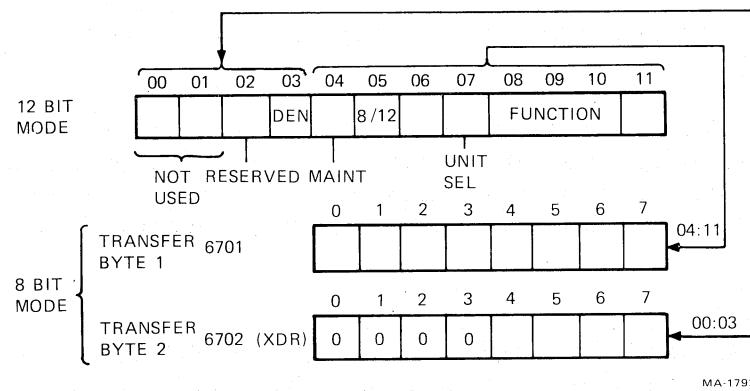

Figure 4-2 Command Word Format (RX28)
4.1.2.2 RX28 Load Command – (First byte 67x1, second byte – 67x2) – This command transfers the contents of the AC to the interface register and clears the AC. The RX02 begins to execute the function specified in AC 8, 9, and 10 on the drive specified by AC 7. A new function cannot be initiated unless the RX02 has completed the previous function. The command word is defined as shown in Figure 4-2 and is described in greater detail in Paragraph 4.1.3.1.
When operating in the 8-bit mode, the Load command is stored in two 8-bit transfers. The first 8 bits of the command word (shown as bits 4-11 in Figure 4-2) are stored; then TR is asserted and an XDR is performed to transfer the remaining bits of data (bit 3, DEN, and bit 2, as shown in Figure 4-2) right-justified. The extra bits in the second 8-bit transfer are filled with zeros. Upon completing the transfer of the second 8-bit byte, Done is asserted to end the function.